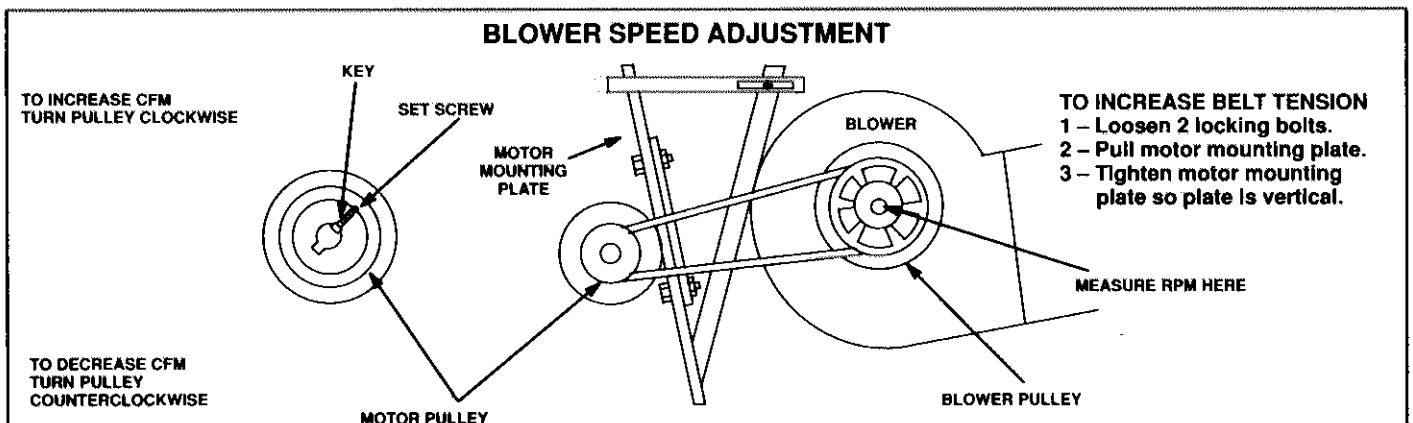

FIGURE 16
- 3- Measure blower wheel RPM (figure 16).
- 2- Loosen the set screws on motor pulley and remove key as shown in figure 16.